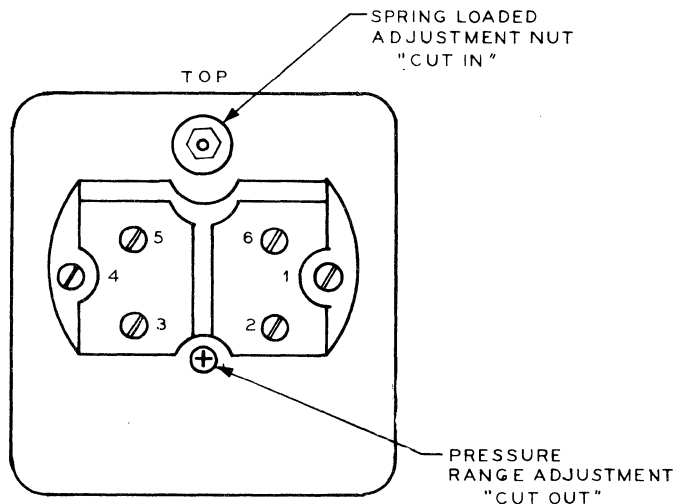

FIGURE IV-2
2. Low pressure "cut in" - slowly reduce the reserve air pressure using the safety relief valve. When the pressure falls to 31 PSI $\pm 0 - 1$, the compressor should start. The "cut in" pressure is controlled 11/32" hex nut at the top of the switch assembly - Refer to Figure IV-2. The switch actuation point can be raised or lowered by increasing or decreasing the tension on the spring respectively.
3. The "cut out" adjustment is controlled by the phillips head screw which is recessed in the center of the assembly - Refer to Figure IV-2. This screw actually controls the range of pressure built up before the compressor is cut out. With the "cut in" set for 31 PSI, the range should vary between 13 to 22 PSI. The adjustment for the System Memory should be for a range of 17 PSI giving a "cut out" pressure of 48 PSI. Turning the screw in a clockwise direction will increase the "cut out" pressure without affecting the "cut in" pressure.